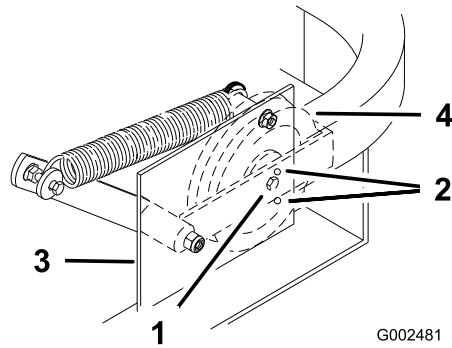

Figure 55
**Important:** Check and make sure the belt is installed into both the front and rear belt guides (Figure 55).
4. Check the belt tension. The spring loaded idler center bolt needs to be near the top alignment hole in left support plate (Figure 55).